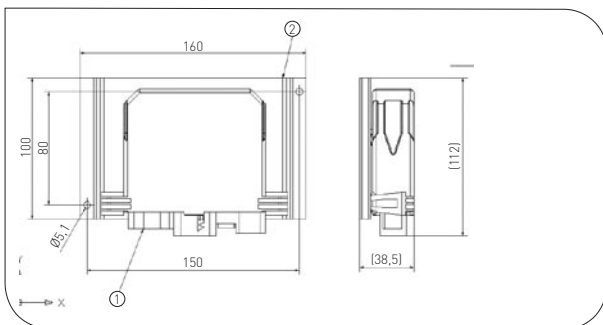

Figure 4.4
The control unit (1) is mounted via two attachment points on the adapter (2) using two screws of diameter 5 (see Figure 4.4). The attachment points in the vehicle must be adapted to the relevant vehicle type.